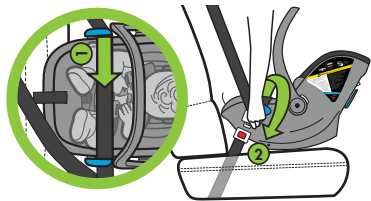

Figure 66
- Route lap portion of the vehicle belt through both blue LATCH/Lap Belt Guides (1) and buckle vehicle belt (2), as shown in **Figure 66**. DO NOT pull the vehicle belt all the way out during this step.